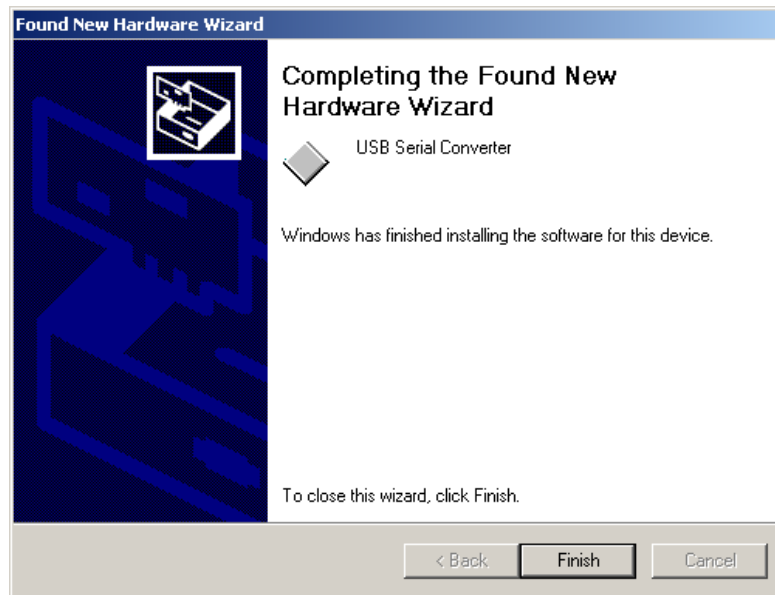

Figure 5. Installation Success Window
- A window indicating that the installation was successful should now be displayed (Figure 5). Click Next.